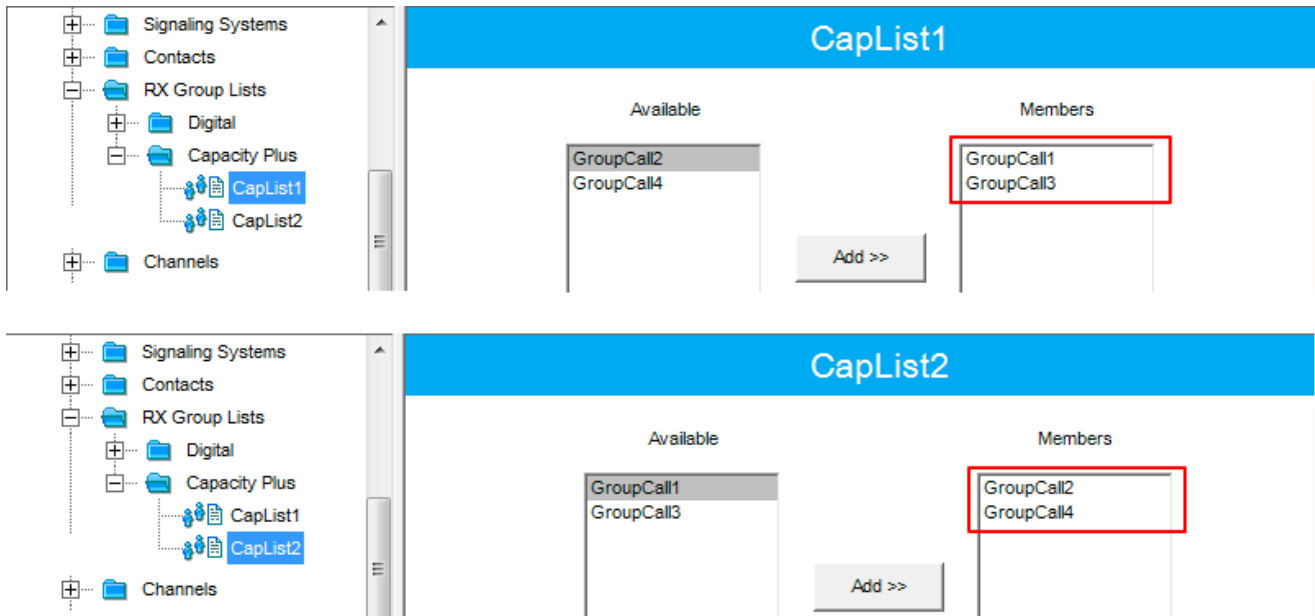

Fig. 13 - Moving Groups to the Members list
3. In the **RX Group Lists** tab switch to an **Available** list. Add created groups from the **Available** section to the **Members** list (Fig.13).